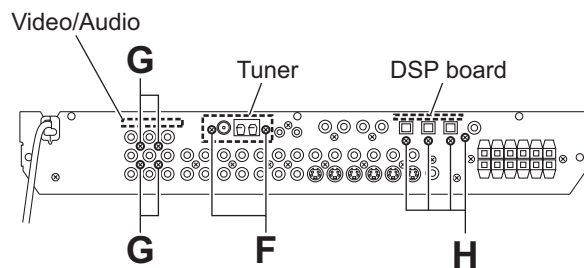

Fig.8
- From the back side of the main body, remove the two screws **F** attaching the tuner. (See Fig.8.)
- From the back side of the main body, remove the four screws **G** attaching the video/audio board. (See Fig.8.)
3.6 Removing the DSP board (See Figs.8 and 9)
- From the back side of the main body, remove the four screws **H** attaching the DSP board. (See Fig.8.)